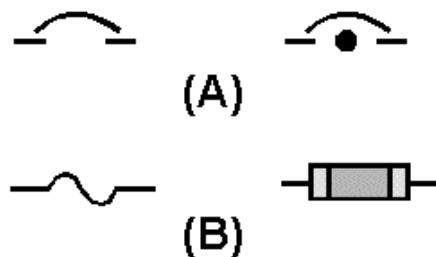

Figure 2-3.—Schematic symbols.
- Q8. Label the schematic symbols shown in figure 2-3 below.*